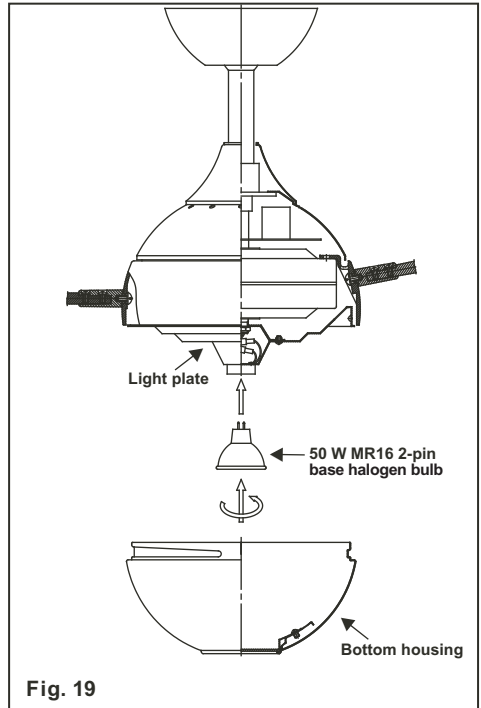

Fig. 19
**Step 1.** Install 50W MR16 2-pin base halogen bulb. (Fig. 19).
**Step 2.** Install the bottom housing by carefully turning it clockwise until snug. **DO NOT OVERTIGHTEN.** (Fig. 19)
A DOWNWARD airflow creates a cooling effect as shown in Figure 19. This allows you to set your air conditioner on a warmer setting without affecting your comfort.